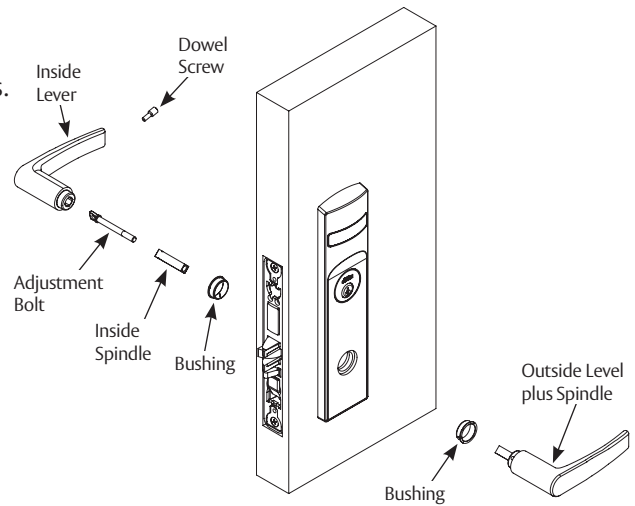

Figure 14
2. Install inside lever or knob by inserting dowel screw. (Figure 14)